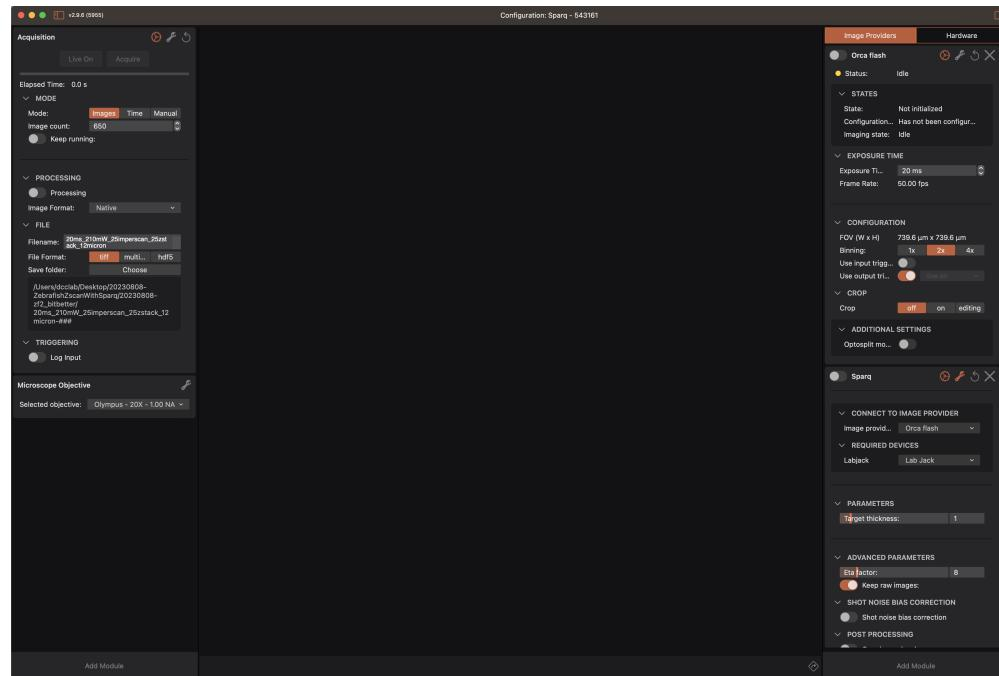

Figure 10
4. If your Nirvana window looks like figure 10, your Nirvana is now ready to go!